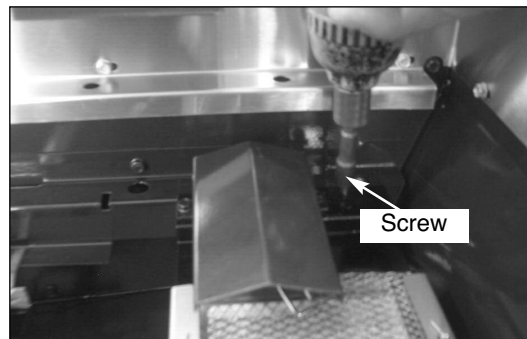

Fig 6
6. Remove the screw holding the rear searing burner mounting bracket to the burner support. (See Fig. 6)